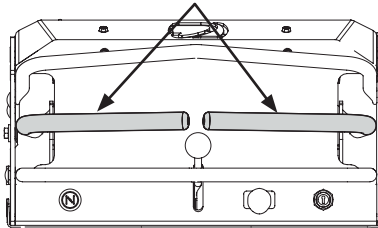

Figure 8
1. Ensure the RH and LH drive control levers are in the neutral position and the parking brake is disengaged. See to Figure 8.